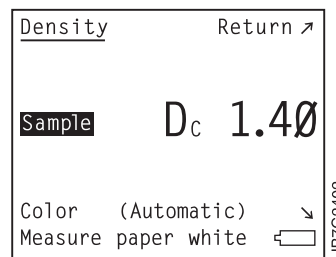

Figure 166. Gretag Density Display
- 3 Turn on the display by pressing the measurement key. The display should look like the one in Figure 166.